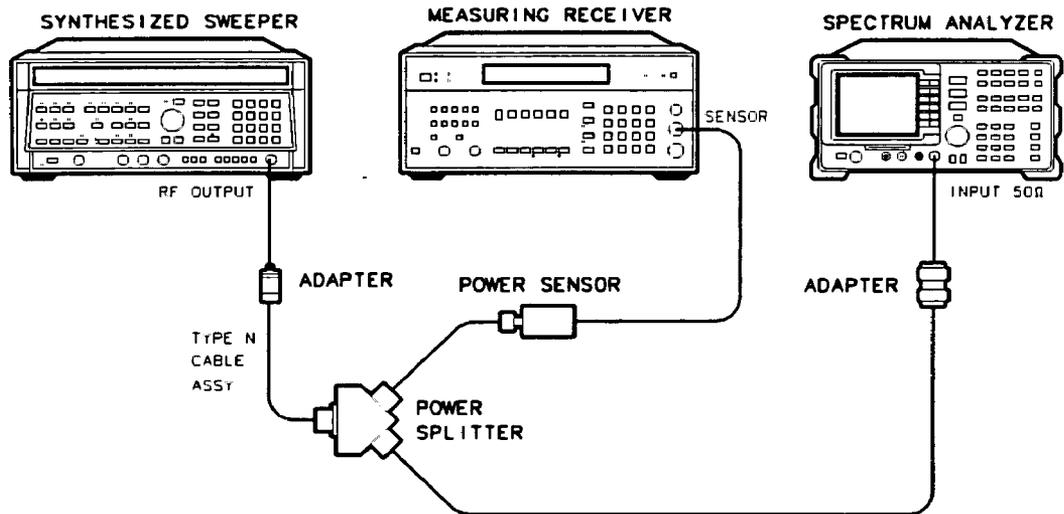
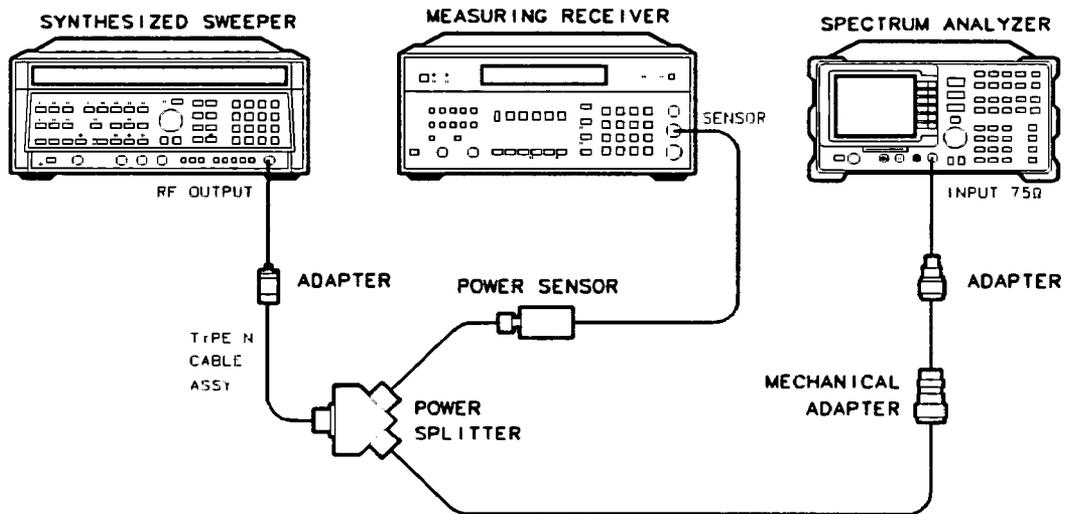

Figure 3-15. Frequency Response Test Setup, ≥ 50 MHz
Figure 3-16. Frequency Response Test Setup, ≥ 50 MHz, for Option 001
2. Connect the equipment as shown in Figure 3-15. *Option 001 only*: Refer to Figure 3-16.